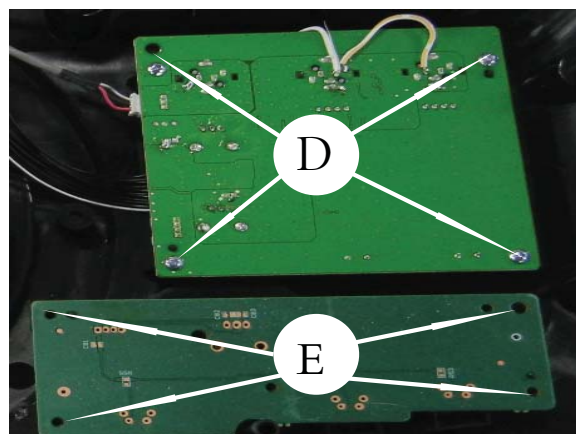

Figure6
- 1) Loosen 4 screws "D" detach MIC Board & loosen 5 screws "E" detach KEY Board as shown in figure6